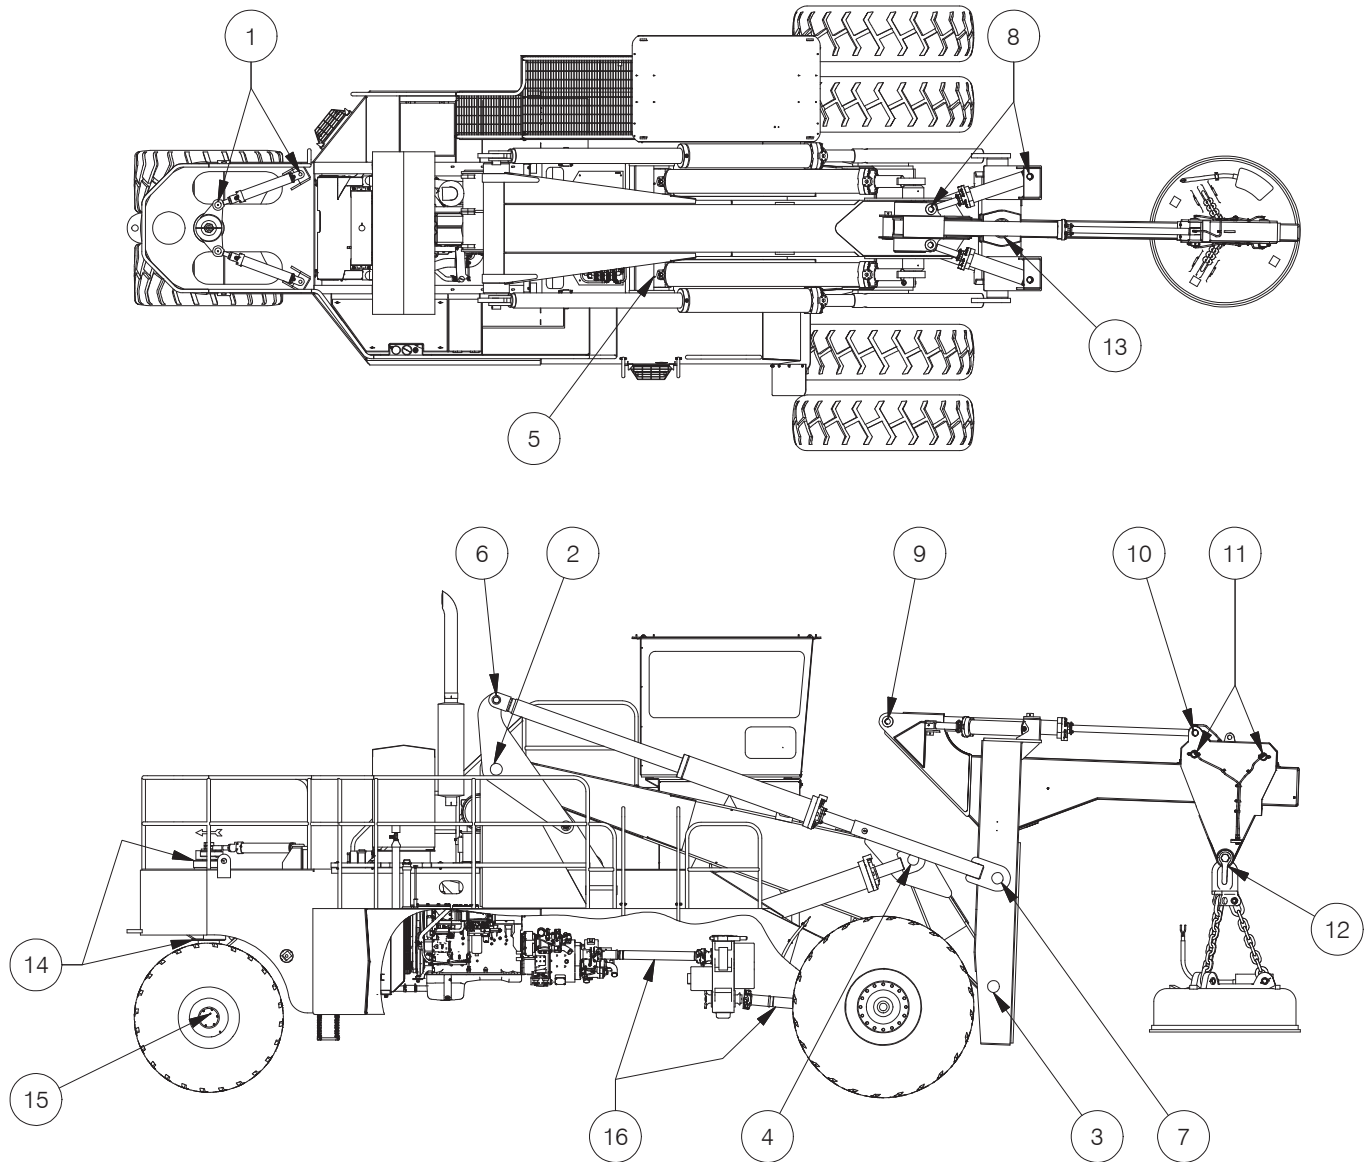

Fig. 6-2 Lubrication Chart
6.9 Lubrication Points (See Fig 6-2)